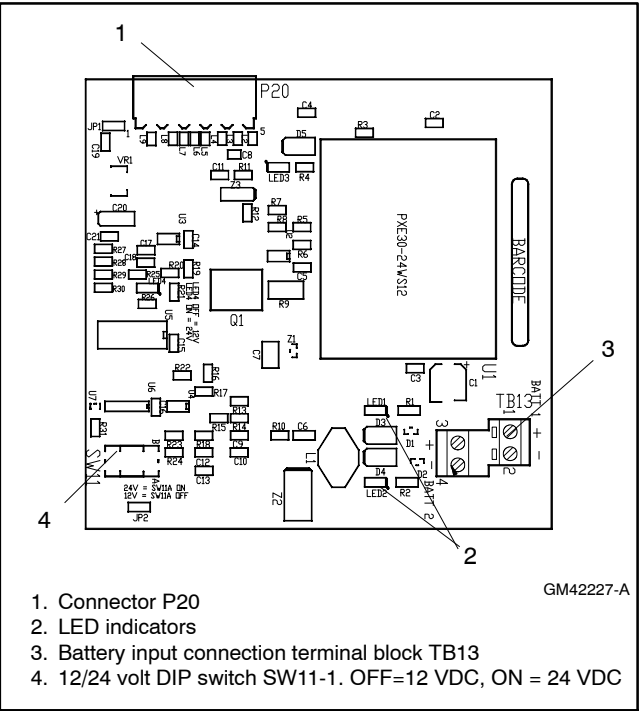

Figure 3-16 External Battery Supply Module
The EBSM produces 2 amps at 12 VDC with 9-36 VDC input. The EBSM input is reverse-polarity protected. The EBSM outputs a low battery voltage signal when the external battery voltage falls below 11 VDC for a 12-volt system or 22 VDC for a 24-volt system. The module is shown in Figure 3-16.
1. Use #14-28 AWG wire to connect one or two batteries to terminal block TB13. (A second battery can be connected but is not required.) Follow the marking on the board for the positive (+) and negative (-) connections. See Figure 3-16 and Figure 3-17.
Note: If the battery connections are reversed, red LED1 or LED2 will light. See Figure 3-16.
2. Set voltage selector switch SW11-1 to 12 or 24VDC. See Figure 3-16 and Figure 3-17. Switch SW11-2 is not used.